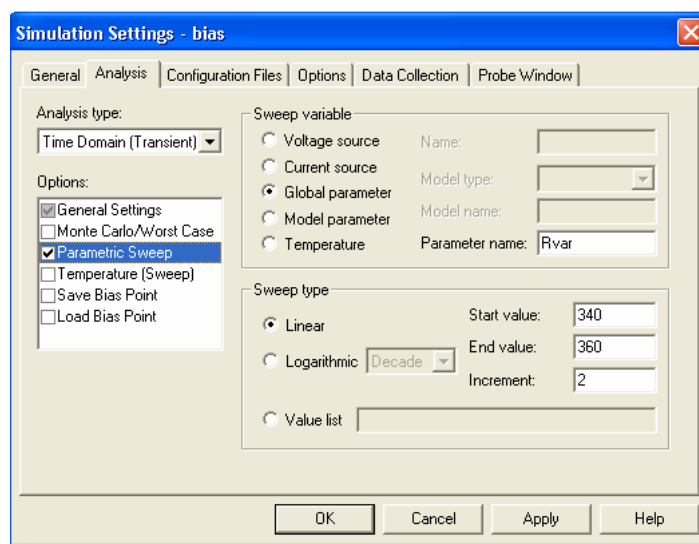

Figure A-3
- Next we will set up the analysis (See figure A-3 on the following page). Create a simulation.